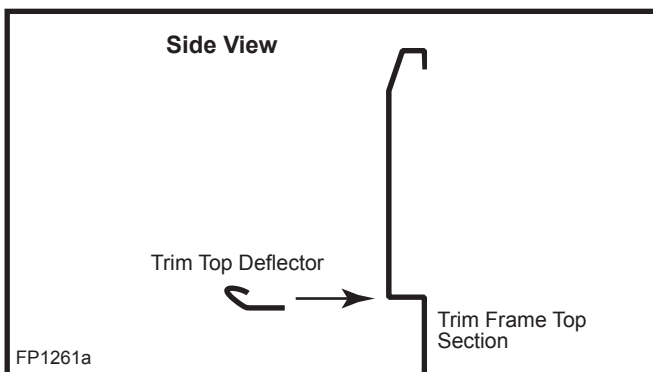

Fig. 58 Trim top deflector.
1. Install trim channels (left and right sides). Use two (2) screws to assemble each piece.
3. Install the trim top deflector. Use two (2) screws to fasten it. (Fig. 58)